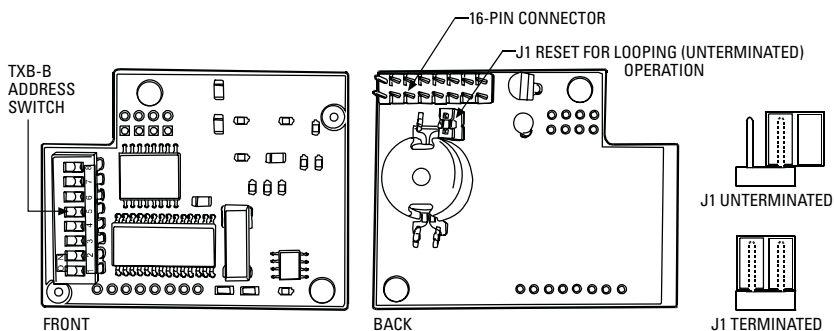

Figure 2. TXB-B Termination and DIP Switch
5. Set the J1 jumper on the TXB-B to the proper termination setting (refer to Figure 2). Note the following: